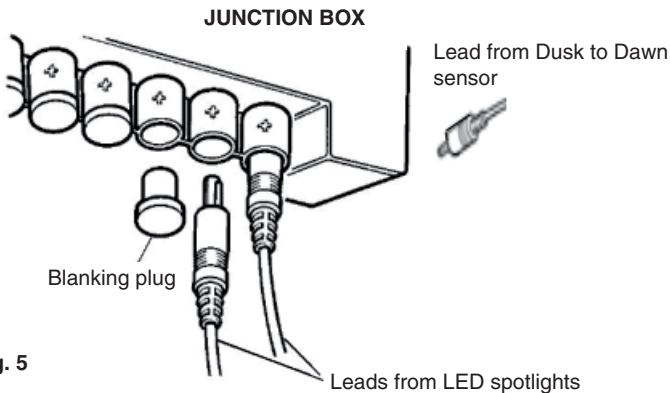

Fig. 5
9. Remove as many blanking plugs in the junction box as you have LED spotlights. Insert the connectors as far as you can into the junction box. The + sign on a connectors should match with the + marking on the junction box (See Fig.5). Blanking plugs should be mounted on all unused sockets on the junction box to protect against moisture.
11. Connect the junction box cable to the transformer and tighten the cable gland nut. Now connect the transformer to a wall socket (see Fig. 5).